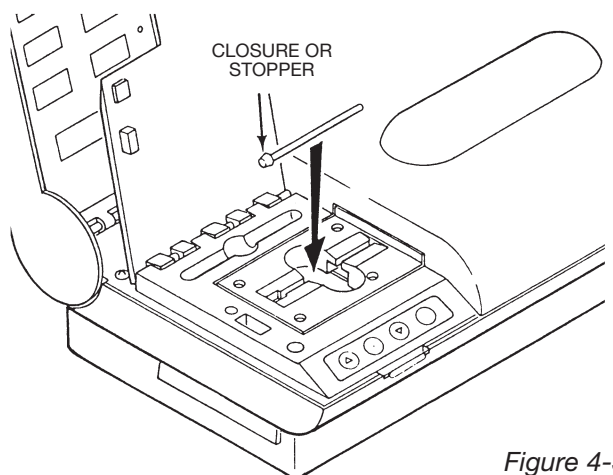

Figure 4-3.
**All QBC blood tubes must be inserted in the analyzer as shown in Figure 4-3, i.e., with the closure or stopper facing left and the open end facing the optic compartment.**